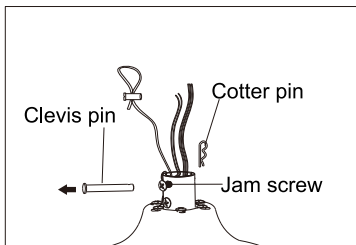

Figure 1.1
- Remove the motor housing, and then pull out the clevis pin and cotter pin. Loosen the two jam screws in the collar on top of the motor housing. (Figure 1.1)